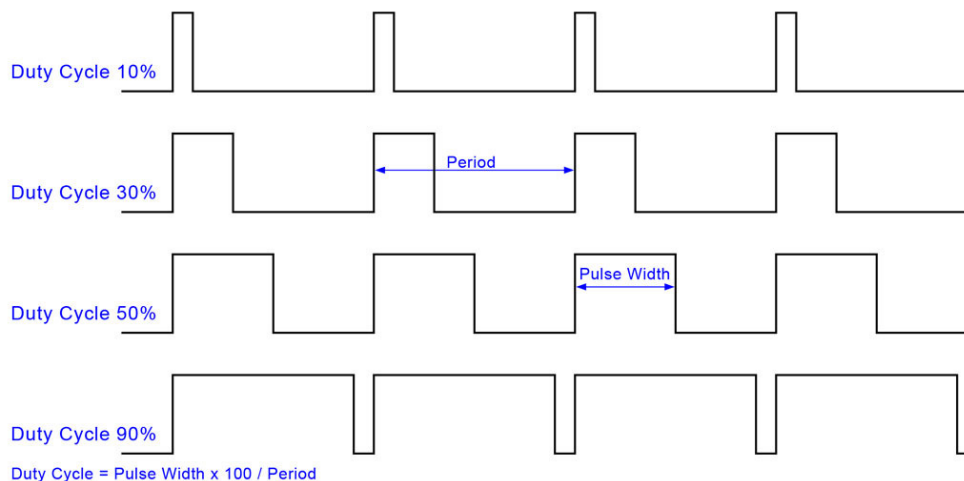

Figure 1: Pulse width modulation
2. [10 points] You will configure the timer T0 to generate a pulse width modulated (PWM) signal whose duty cycle is controlled by the user. Figure 1 shows typical PWM signals. Read the switches P1.0-P1.2 to accept the duty cycle from the user. Write a program to generate a PWM with the duty cycle corresponding to the switch positions as indicated in Table 1. Set the frequency of PWM signal be 0.5 Hz and use the LEDs P1.4-P1.7 (though one is sufficient) to monitor the generated output. The PWM information has also to be written out on the LCD in the following format. First row of the LCD should display the duty cycle in percent as “Duty cycle: xx”, where **xx** depends on the switch value. Second row should display the pulse width as “Pulse width: ttt”, where **ttt** represents $ttt \times 10^{-3}$ s.